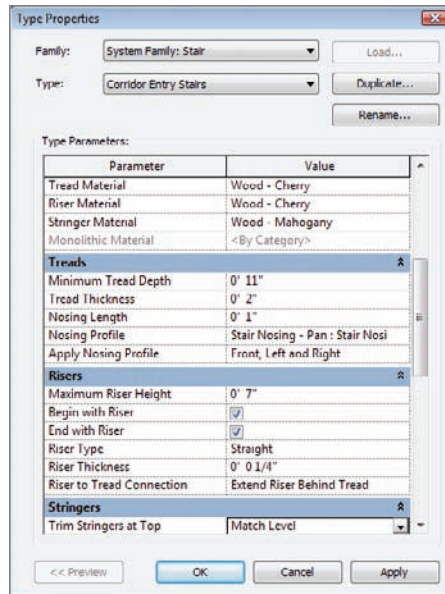

FIGURE 10.43 Customizing the stairs
12. For Stringer Material, select Wood - Mahogany (see Figure 10.43).
14. In the Stringers category, select Match Level for Trim Stringers At Top (see Figure 10.43).